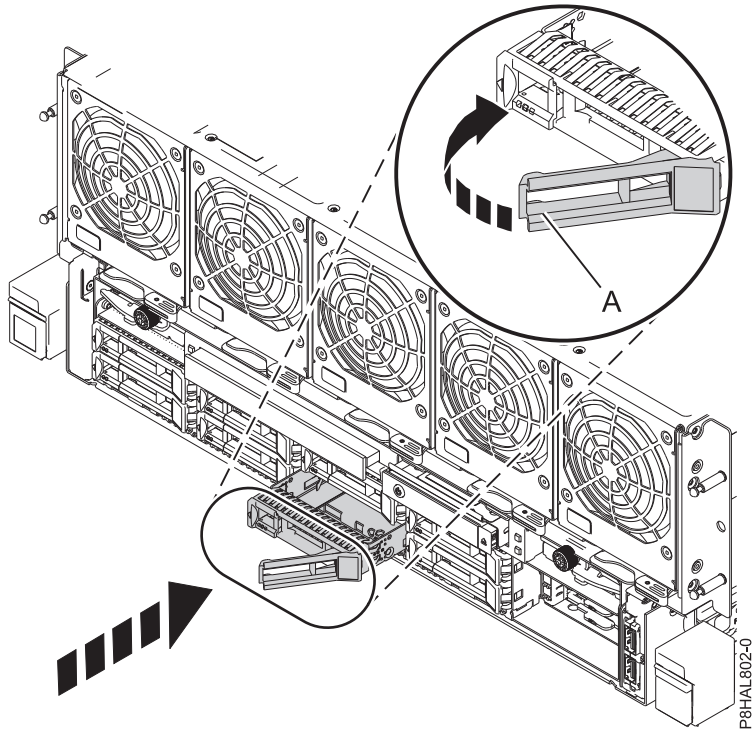

Figure 8. Installing a disk drive in a system
4. Unlock the drive bay handle (A) by pressing it and pulling it out toward you. If the handle is not all the way out, the drive does not slide into the system. See Figure 8 on page 16.